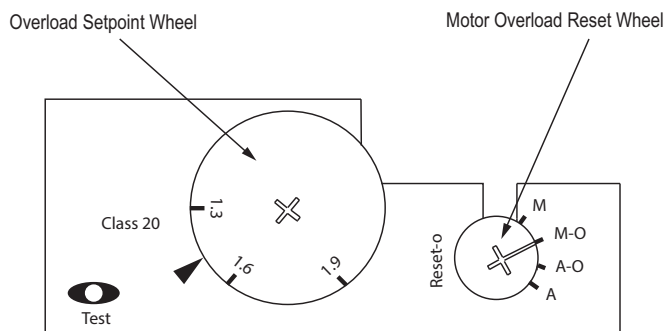

Fig. 10 — Motor Starter Setting
1. On the starter, adjust the Motor Overload to match the **FLA Rating** of the installed motor by turning the Overload Set-point wheel to the appropriate value. See Fig. 10. Condenser motor FLA ratings are listed in Table 12.